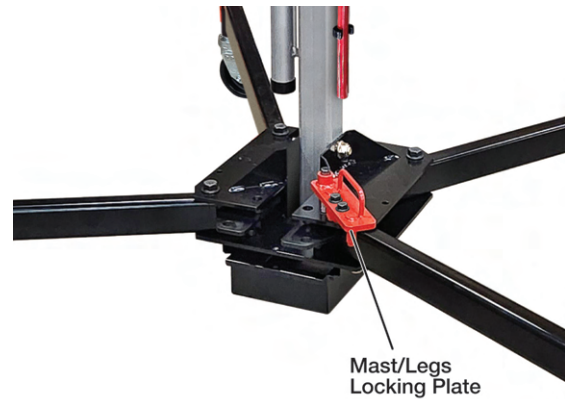
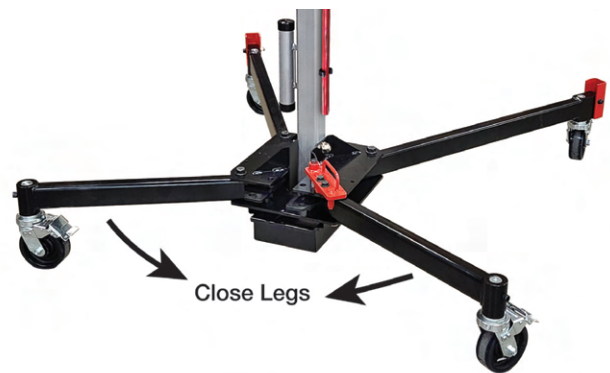

Figure 7-27: Mast/Legs Locking Plate Open
Figure 7-28: Pivot Legs to Closed Position
3. If moving the material lift through narrow doorways or passageways, you must adjust the legs to a narrower stance. To do this, lift and swing open the red mast/legs locking plate (see Figure 7-27). This unlocks the base assembly legs. Pivot legs inward to their narrowest position. Swing the red mast/legs locking plate back into place. Make sure it drops into the locked position (see Figure 7-28).